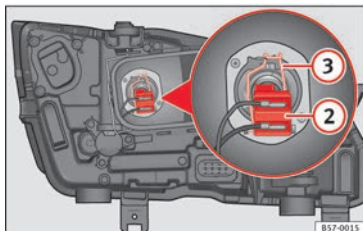

Fig. 105 In the engine compartment: dipped beam headlight.
3. Remove connector » **Fig. 105** ② from the bulb.
4. Unclip the retainer spring » **Fig. 105** ③ pressing clockwise and inwards.